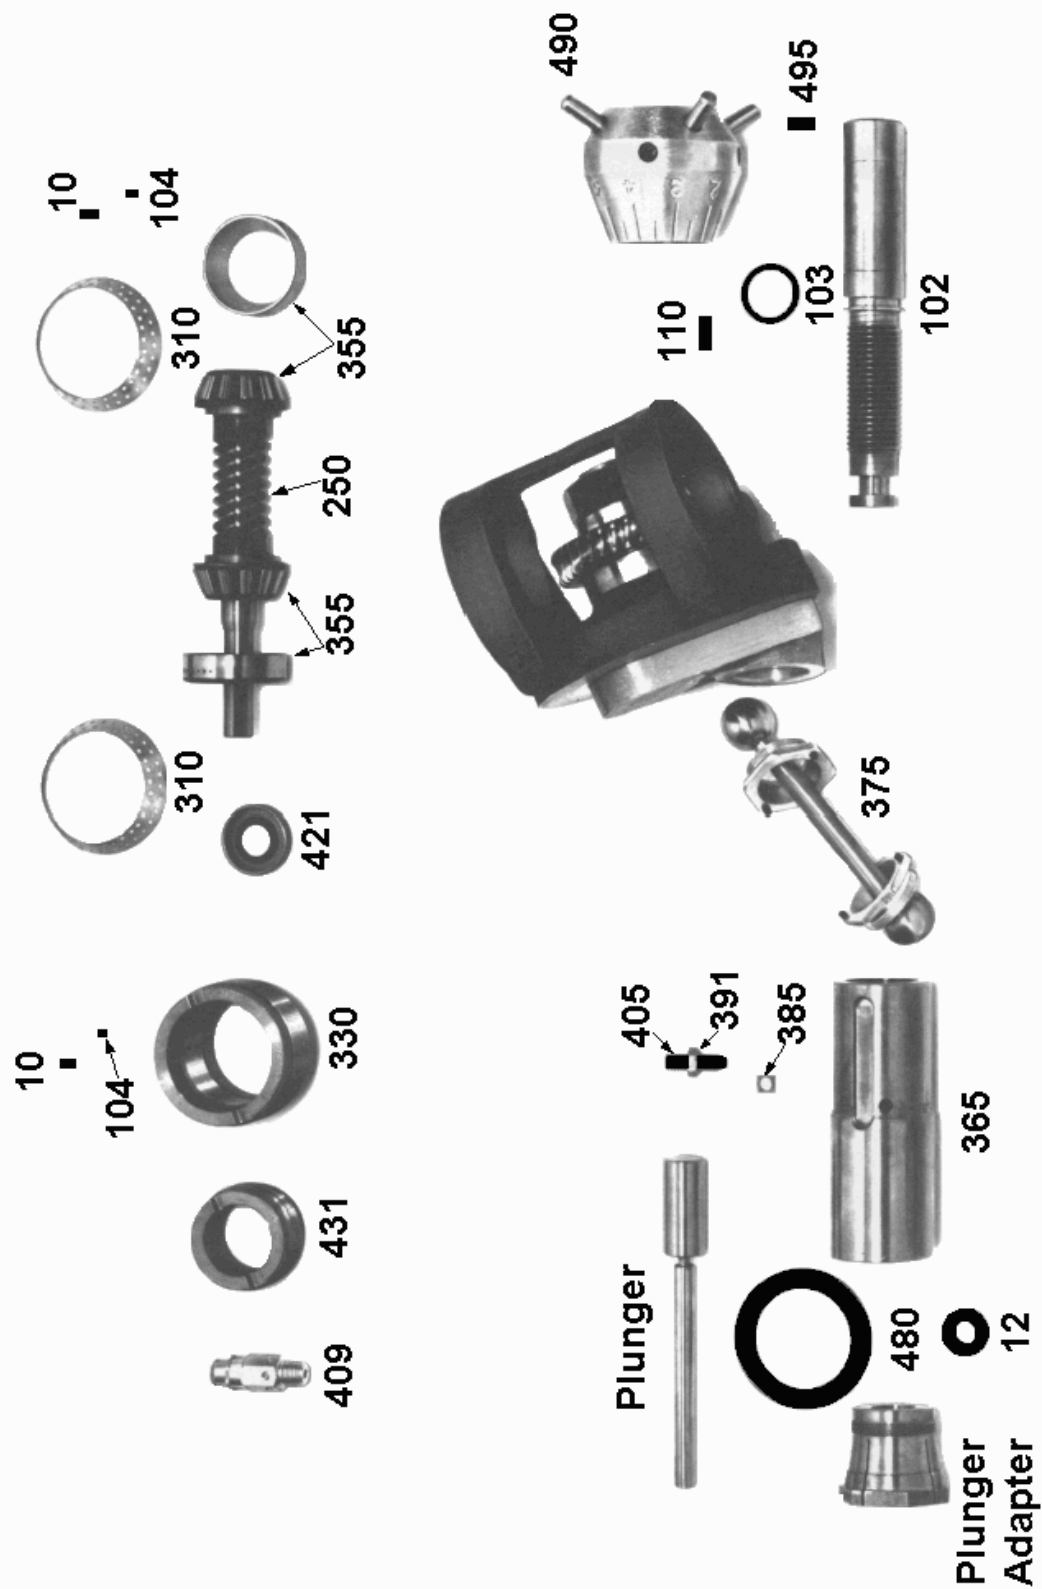

Figure 9. Pump Drive Parts
The pump may be dismantled for parts replacement through the following procedures. (Numbers in parentheses are drawing location numbers found on the parts list and drive drawings, Figures 9, 10, & 11.)
**Remove the crosshead from the pump as follows (refer to figures 9, 10, and 11):**
5. Set stroke at 20% and rotate worm until crank is horizontal. Loosen connecting rod (375) setscrews. (Use wrench #211-0029-006).
6. Loosen sliding shoe nut (391) and remove sliding shoe set screw (405) from sliding shoe (385).
7. Slowly remove crosshead assembly from liquid end side of pump. Be careful not to lose sliding shoe (in crosshead slot). Take care as well not to damage crosshead oil seal (480).